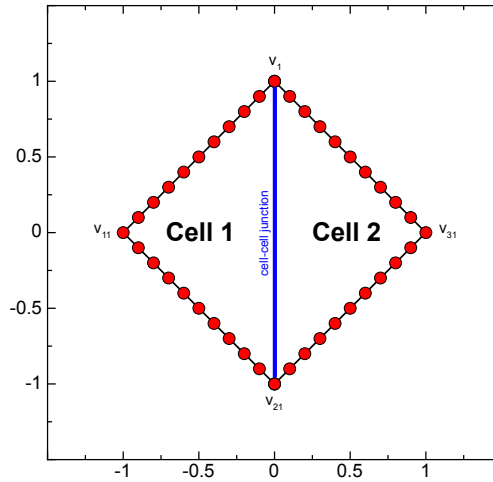

Figure 2: Schematics of the initial cell shape for adherent cells
(3) Cell-cell adhesion Now, consider two cells, sharing a cell-cell contact with adhesion strength W , and cortical tension T_0 . These cells can be modeled as liquid foam cells, with an effective tension of $2T_0 - W$ at the cell-cell contact, and T_0 at the free edges. Using the same pressure term $K_A(A_i - A_0)$, we will simulate how changes in adhesion strength affect the equilibrium cell shapes, starting with the initial configuration of two triangular cells described in Figure. 2. Without loss of generality, T_0 is set to 1, and the range of W is between 0 to 2. The relevant parameters for the pressure term are fixed as $K_A = 10$ and $A_0 = 1$.